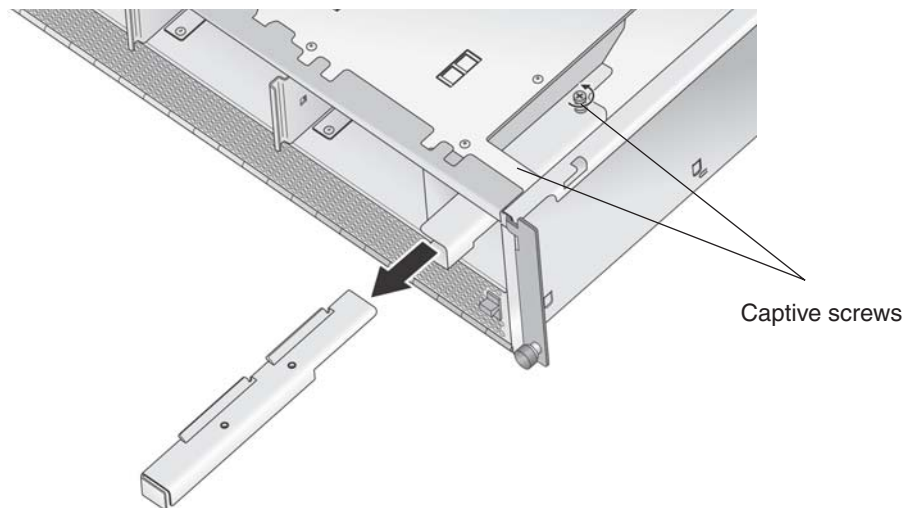

FIGURE 5-11 Installing the Sixth HDD Bay Adapter
2. Install the adapter into the chassis below the operator-panel assembly, as shown in FIGURE 5-11. Push the adapter in until it stops against the chassis.